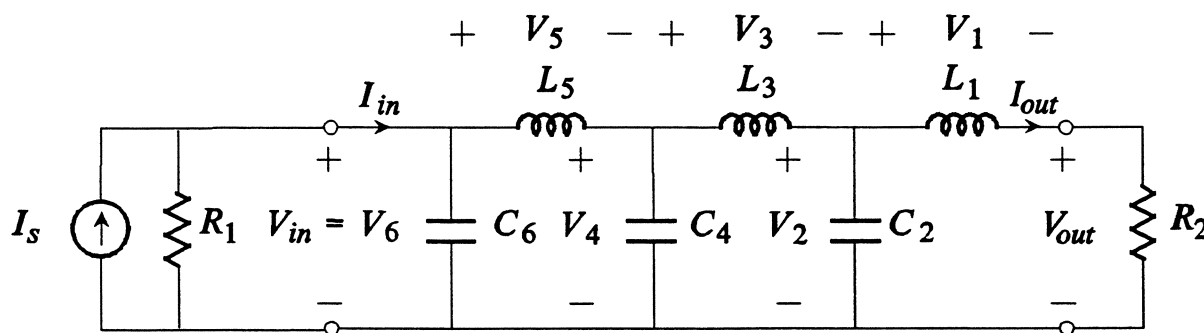

Fig. L1 A lumped element LC transformer.
Consider the LC transformer circuit shown in Fig. L1. Write a C program to compute the branch currents, branch voltages and magnitude of the input reflection coefficient of the LC circuit. The parameter values are $I_s = 1$ A, $R_1 = 3 \Omega$, $R_2 = 1 \Omega$, $L_1 = 1.041$ H, $C_2 = 0.979$ F, $L_3 = 2.341$ H, $C_4 = 0.781$ F, $L_5 = 2.937$ H, $C_6 = 0.347$ F. Use 21 uniformly spaced points in the frequency range 0.5 – 1.179 rad/s, i.e.,
* Voltages should correspond to the reference directions of Fig. L1. Voltages should be in the form (Real(voltage), Imaginary(voltage)).